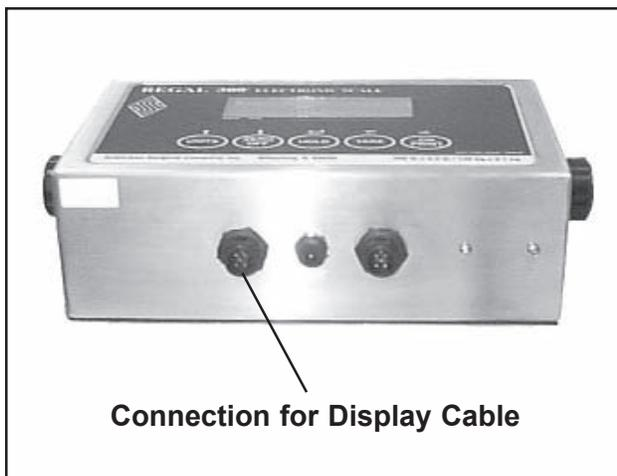

Figure 53. Display Console Display Cable Connection
Keep in mind that the most common cause of inaccurate readings is a loose display cable. If you are getting bad readings from the scale, make sure that the display cable is securely in place (Figure 53).
1. Check the display cable connection at the console. Make sure it is fully seated (Figure 53).